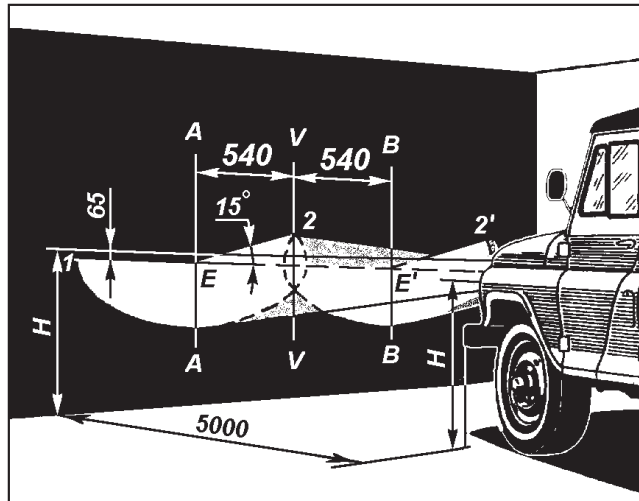

Fig. 9.41. Screen markings for headlamps adjustment:
1. Park the vehicle with full fuel tank, its curb weight, normal tire pressure and loaded driver's seat of 750 N (75 kgf), on an even level ground 5 meters away from a screen with special markings (Fig. 9.41).